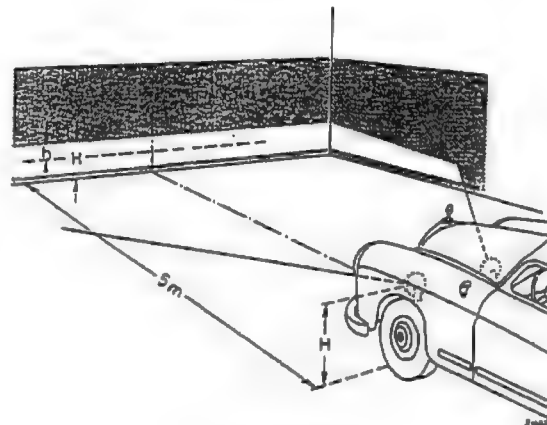

Fig. 82-2/4
4. Adjust the fog lights in such a way that the adjusting line lies in the center of the most brightly illuminated area of the adjusting screen (see Fig. 82-2/4).